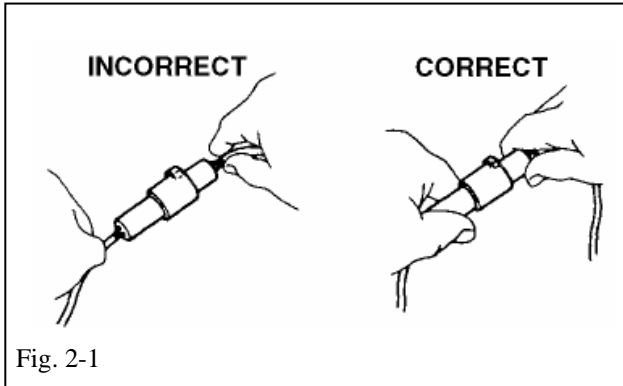

Fig. 2-1
- (a) DO NOT pull on vehicle wires and/or wire harness. To uncouple electrical connectors, pull only on the connector. (Fig. 2-1)